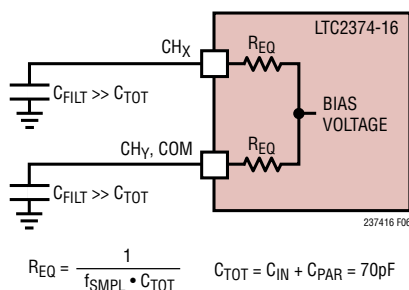

Figure 6. Equivalent Circuit for the MUX Analog Inputs of the LTC2374-16 at 1.6Msps
**Fully Averaged:** Consider the case where MUXOUT+/- is directly wired to ADCIN+/-. If the coupling filter's capacitors ( $C_{FILT}$ ) at the MUX analog inputs are much larger than the sum of the ADC's sample capacitors (50pF) and the MUX's output summing node capacitances (20pF), then the sampling glitch is greatly attenuated. The driving amplifier effectively only sees the average sampling current, which is quite small. At 1.6Msps, the equivalent input resistance is approximately 9k (as shown in Figure 6), a benign resistive load for most precision amplifiers. However, resistive voltage division will occur between the coupling filter's DC resistance and MUX's equivalent (switched-capacitor) input resistance, thus producing a gain error.